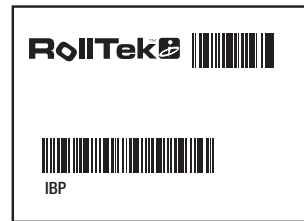

Figure 2
1. Locate the product identification label. This is located on the top surface of the unit. See **FIGURE 2**